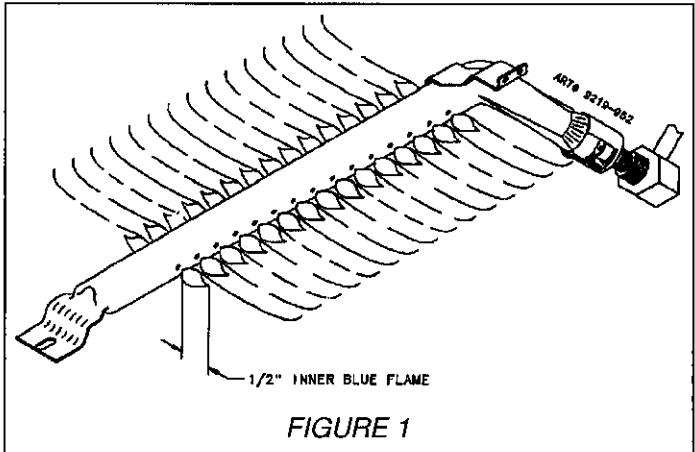

FIGURE 1
- a. The approximate length of the flame of oven burner is a 1/2 inch distinct blue flame, figure 1.